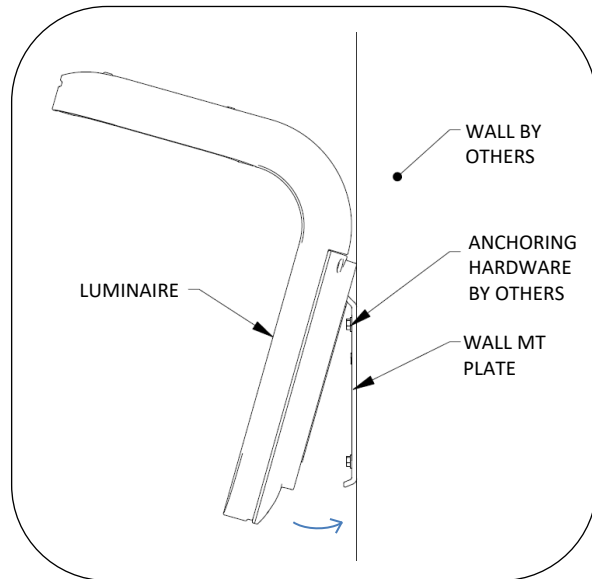

Fig. 4 - Attach luminaire to wall mount plate
10. Install luminaire over wall mount plate as shown in Fig. 4.